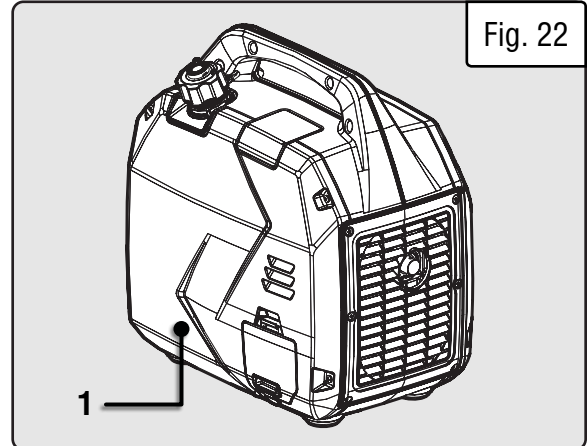

Fig. 22
1. Remove the oil access panel. Unscrew the four Phillips-head screws and remove the side panel (Fig. 22 - 1).
2. Remove the oil access panel. Unscrew the four Phillips-head screws and remove the side panel (Fig. 22 - 1).
2. Unscrew the six Phillips head screws and remove the muffler cover (Fig. 22 - 1).